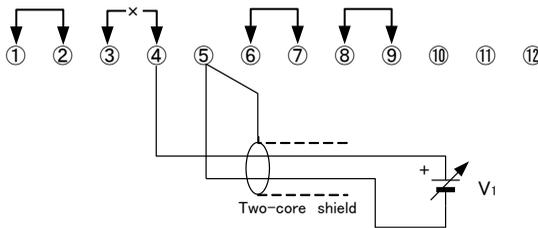

Fig. 9
- 2) Remove the short bar ③—④ and connect external voltage V_1 across ④ and ⑤ as shown Fig. 9. Be very careful about the polarity.